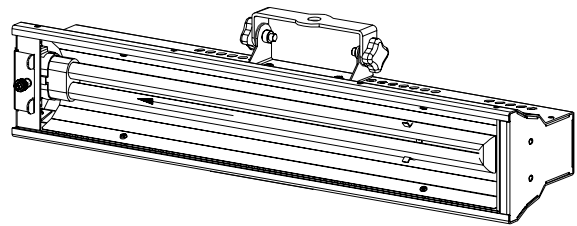

Figure 5
2. Gently slide lamp into socket (Fig. 5).